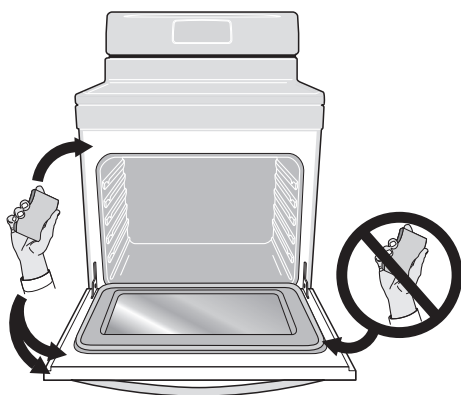

Figure 10: Areas to clean and to avoid
- Do not use oven cleaners or oven protective coatings in or around any part of the oven interior. Clean any soil from the oven frame, the door liner outside the oven door gasket, and the small area at the front center of the oven bottom (See Figure 10). These areas heat sufficiently to burn soil on. Clean using soap and water prior to starting Self Clean.